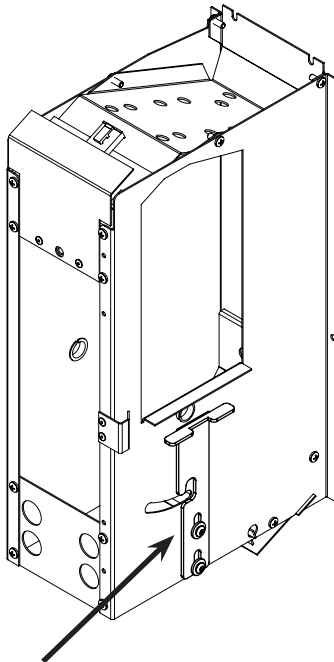

FIGURE 5.16.
3. If the switch is **not** being engaged completely, check the port security latch to make sure it is not stuck. If the latch is stuck, it may not move up and down freely. (Refer to Figure 5.16.)